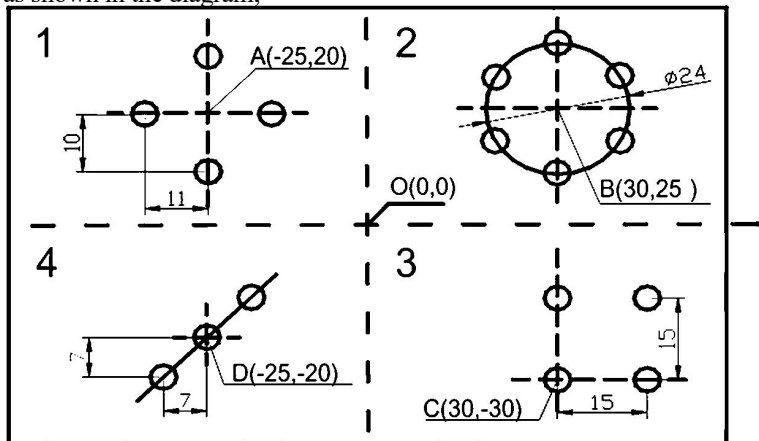

图 3.1
1. Under the Absolute Coordinate System(ALE), move the machine platform and make the tool aim at the center point 0 as shown in Fig. 3.1.
7. When processing work pieces of the same size, as long as the ALE null point is set after point 0, SDM null point is set automatically. As shown in Fig. 3.1, get into SDM1 Coordinate System, move to the position at which the displayed values of axis X and axis Y are zero which is the basic point of SDM1 Coordinate System. Users can process the work pieces base on this. When doing mass processing, with these User Coordinate Systems, users can save a lot of time to set null point of user coordinates. In this way, processing efficiency is highly enhanced.